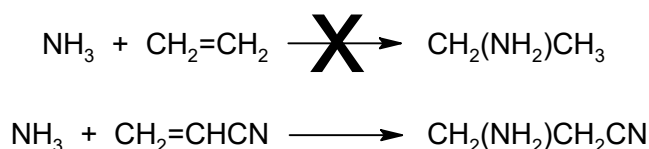

Fig. 1.1
- (d) NH₃ is commonly used as a nucleophile in organic chemistry. In some instances, it adds to the C=C bond as shown in Fig. 1.1.
- (i) Suggest reasons to explain Fig. 1.1.